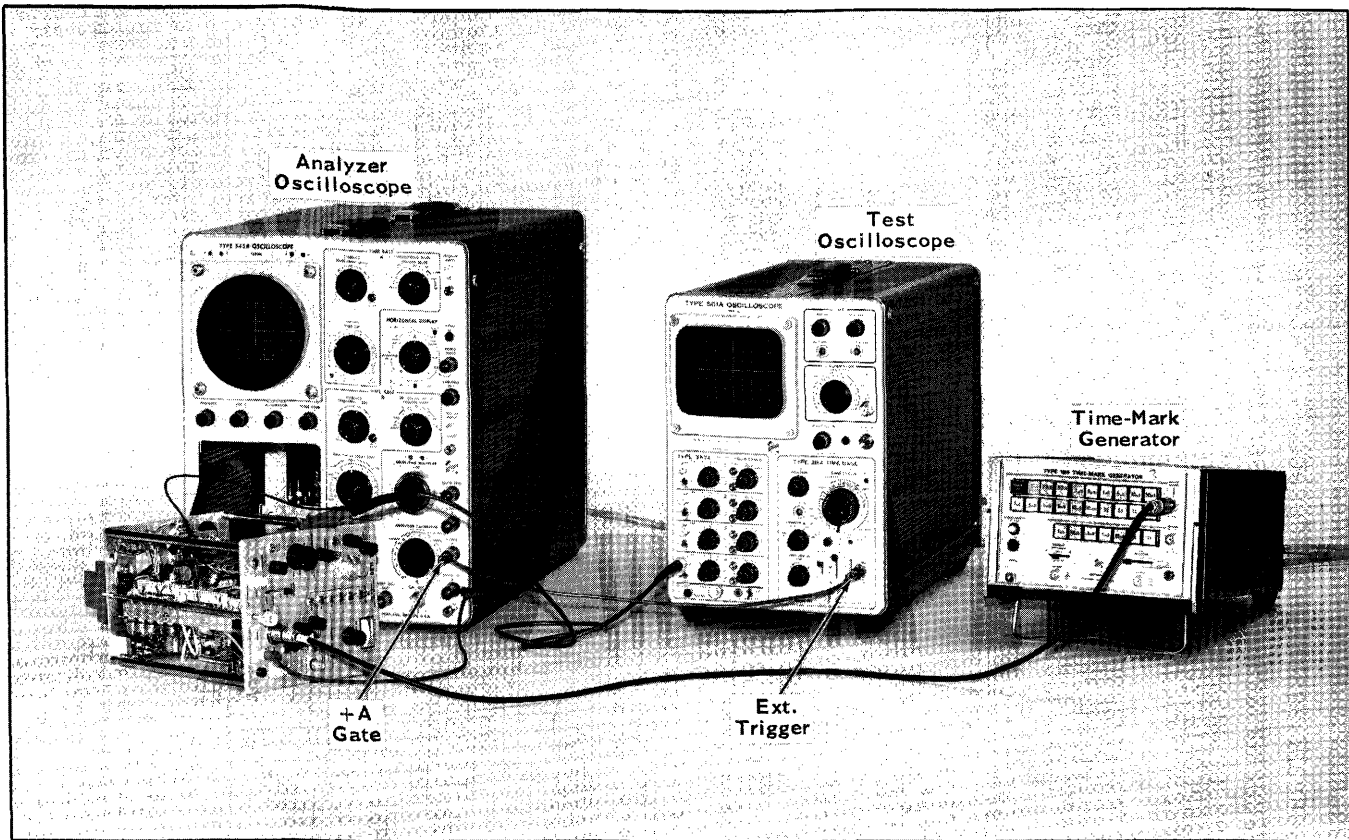

Fig. 6-6. Setup for adjusting Resolution (Step 4).
- Connect the equipment as shown in Fig. 6-6. (The test oscilloscope probe is on Pin B of the IF Chassis square-pin connector board.)